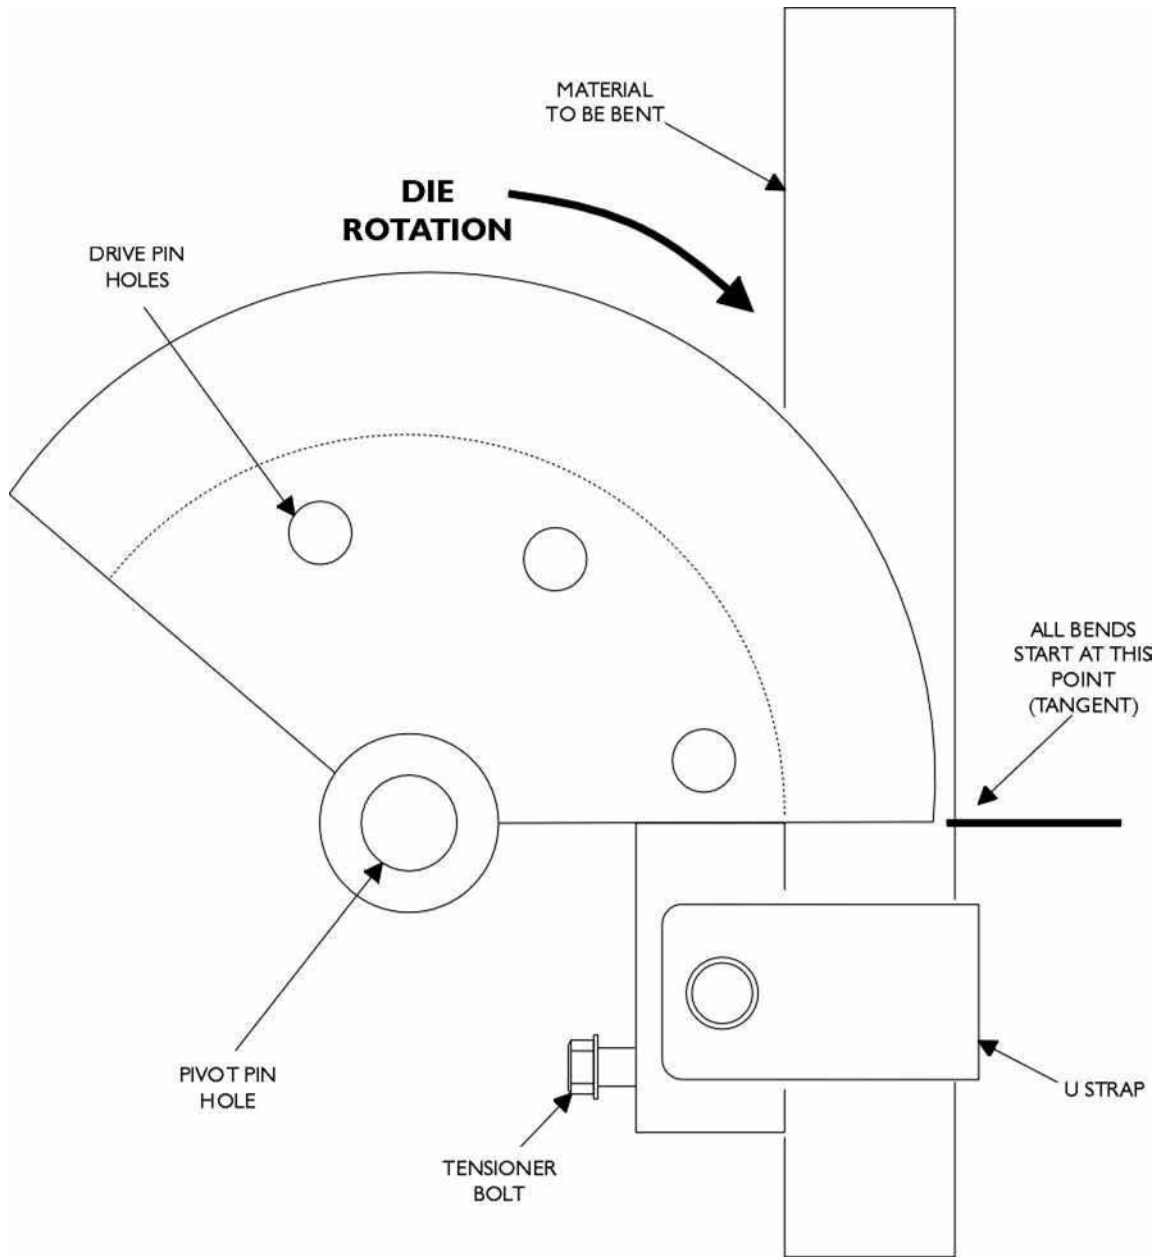

Figure 2. Bends start at edge of radius die.
4. Pass tube into die and position as required for start of bend. All bends will start at the edge of the radius die as shown in Figure 2.